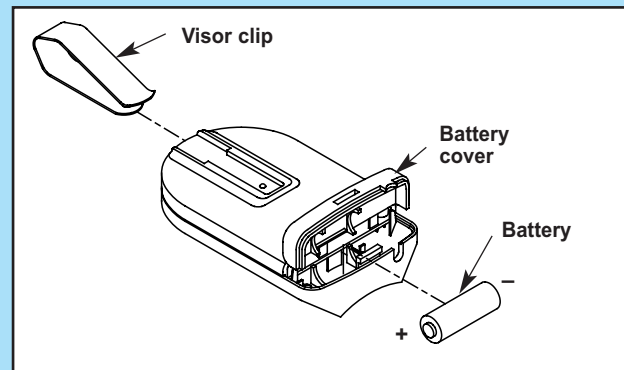

Fig. 10-2
3. Attach visor clip to remote control (Fig. 10-2)